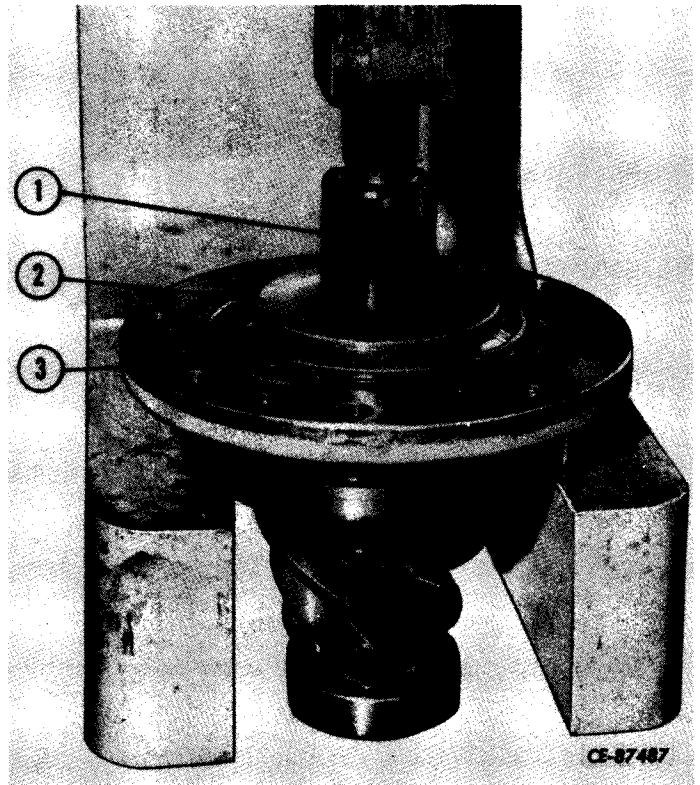

Figure 6-18
Using a soft mallet or press, drive the pinion shaft (1, Fig. 6-18) from the cage (3).